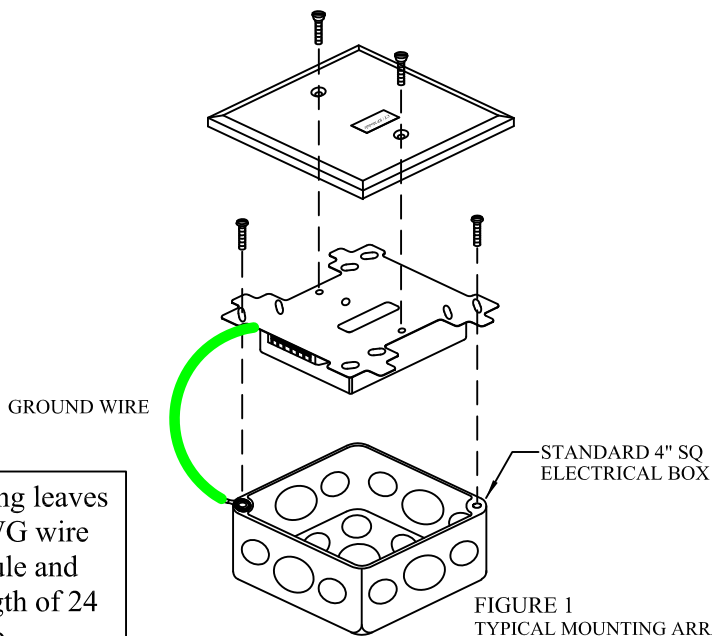

FIGURE 1
The City Tie Module has one mounting option. See figure 1.
Connect Green ground wire to a grounded electrical box as shown in figure 1.
- 2) Secure the module to a U.L. listed electrical box (supplied by installer), as shown in Figure 1.